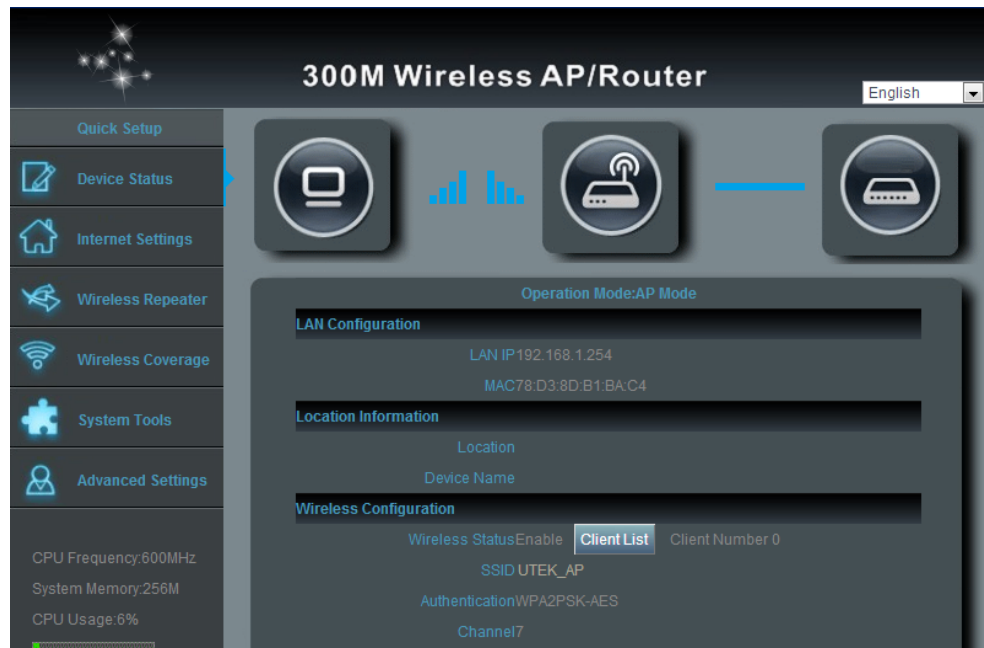

Fig. 3 Configuration interface
5.04. Enter 192.168.1.254 in the web browser and press “Enter”, and then enter the user name and password in the shown access window. Both the default user name and password are admin, see Fig. 2. Fig. 3 shows the configuration interface after log-in.